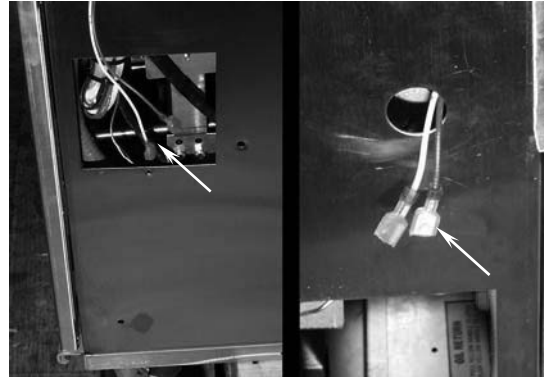

Figure 4. Oil return wires between sections must be connected for oil-return operation.
3. Connect red/white or red/yellow wires (Figure 4, left) between fryer sections being assembled (Figure 4, right, arrow). Oil-return will not operate properly if these wires are not connected.